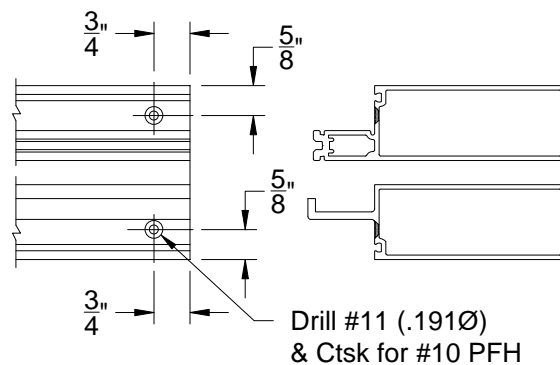

FIGURE 22
- 2.33 Fabricate horizontals per FIGURE 22. Drill #11 (.191Ø) holes at each end for #10 Phillips Flat head fasteners.